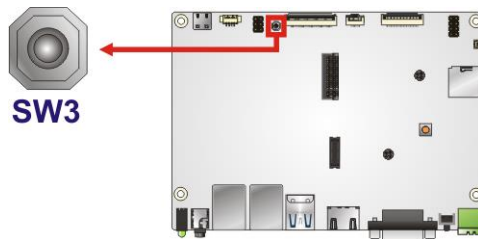

Figure 3-3: Download Key Location
- CN Location:** See **Figure 3-3**